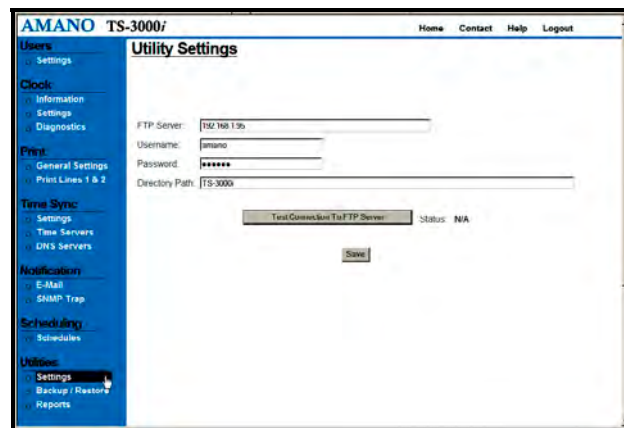

Figure 4-22. Utility Settings (FTP Server).
- Step 1. Click on the **Settings** link under **Utilities** and the **Utility Settings** screen for FTP will appear (see *Figure 4-22*).
- Step 4. Click on the **Run Backup** button to perform the Backup and the status will appear once the operation has been completed. The transaction file will be stored at the same location (path) previously entered for the FTP Server (see *Figure 4-22*). The configuration file will also be stored in the same location but in a binary format with a filename which correlates to the clock and ending in "**_ATVSTrans.txt**".